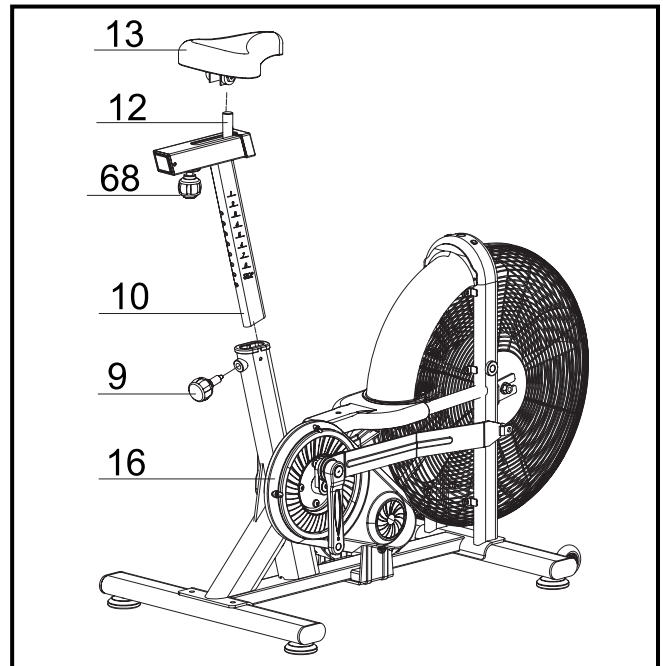

Fig. 2
STEP 2: Installing the Seat (FIG. 2):